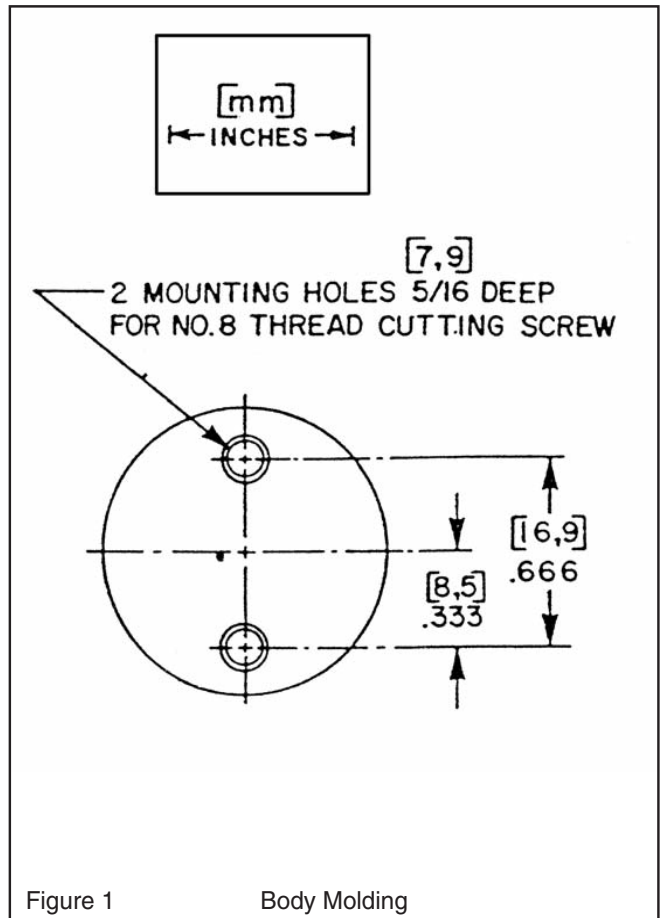

Figure 1 Body Molding
3. Replace valve bonnet and bonnet screws. Torque bonnet screws (4) in a crisscross manner to 110 ± 10 inch pounds.
4. For A-C Construction, the diaphragm spring, core assembly and core spring must be installed prior to assembly of bonnet as this is the solenoid base sub-assembly. Be sure diaphragm spring is installed properly. Closed turns of spring to seat on diaphragm assembly. For valves with a manual operator (see Figure 1), the small end of diaphragm spring seats on diaphragm assembly.
For valve body and mounting bracket mounting dimensions, refer to Figures 1 and 2.